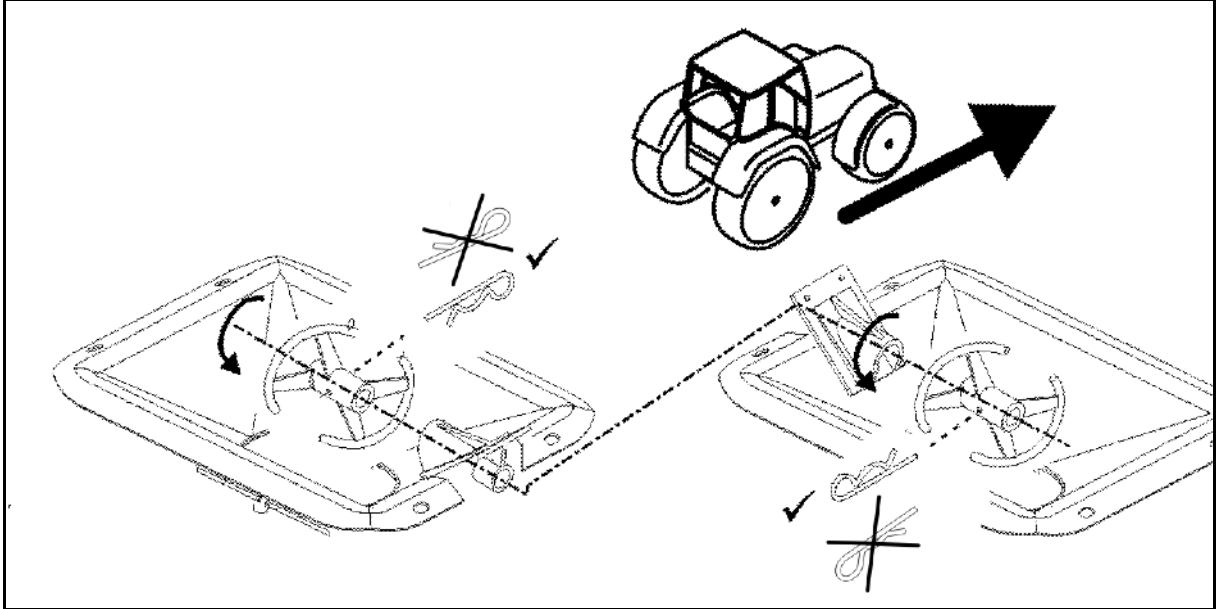

Fig. 72
- 2 x 8 screws of the leaf springs (Fig. 72/1)